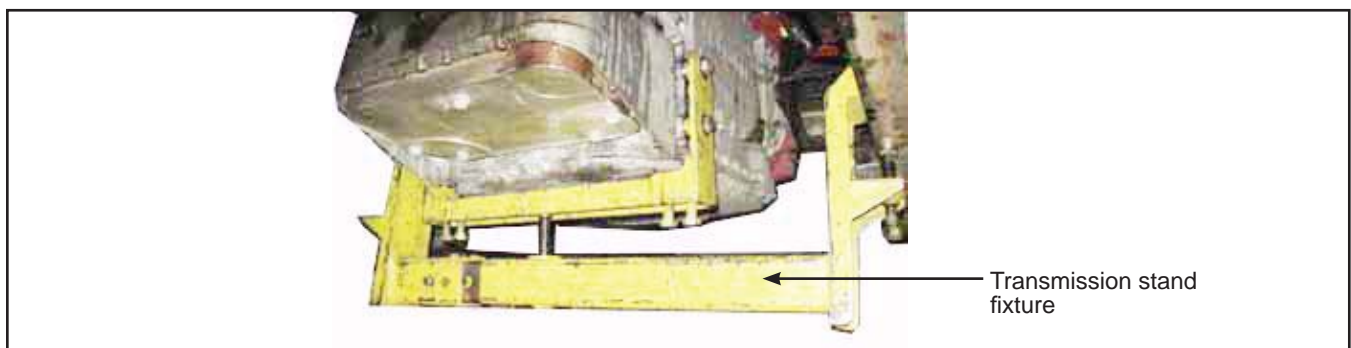

Figure 4 - Typical Transmission Support
- 1.7. Support the transmission from underneath using a typical stand fixture . See Figure 4.